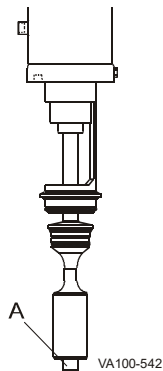

Figure 22 - Valve Stem Removal
- 1. Lower stem removal: Using an open end wrench, remove the lower stem (Figure 22, item A) from the actuator by turning it counter-clockwise.